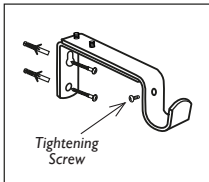
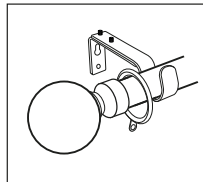

Fig. 2
Fig. 4
- 3** Fix brackets to wall (see Fig 2) ensuring that they are spaced evenly.
- 6** Ensure that at least one ring is positioned on the outside of the brackets (between the bracket and finial at each end). Position the pole centrally into the brackets and then tighten up the tightening screw on the back of the brackets (see Fig 2) to fasten the pole securely in the brackets (see Fig 4).